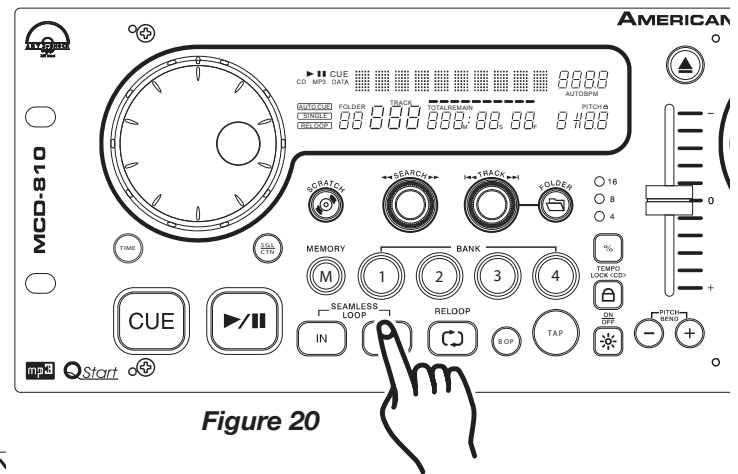

Figure 20
EXITING A LOOP - To exit a SEAMLESS LOOP, press the **OUT BUTTON** (20). The **IN BUTTON** (21) and **OUT BUTTON** (20) L.E.D.s will remain on, but will stop flashing. Music playback will resume normal play (Figure 20). The **IN BUTTON** (21) and **OUT BUTTON** (20) L.E.D.s will remain on to remind you that a loop is stored in memory.